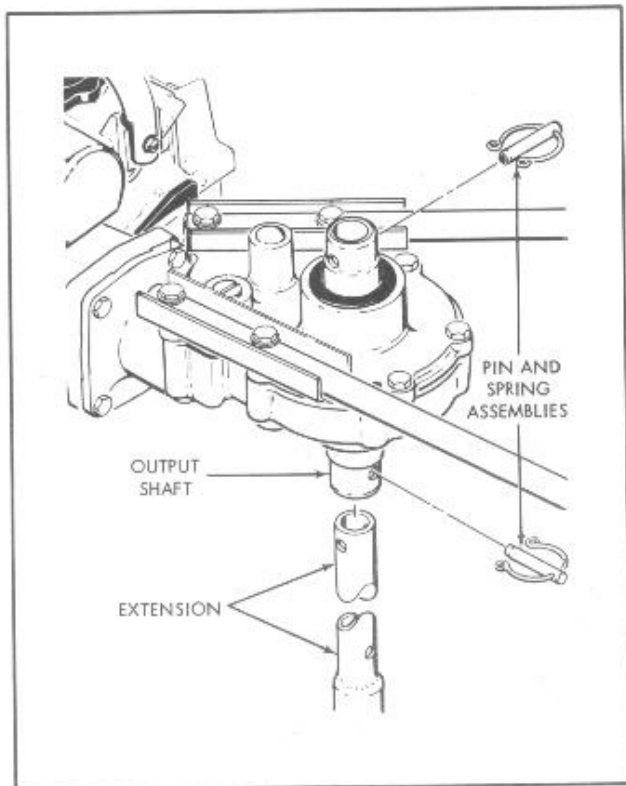

Figure 7. Install Auger Extension
7. Insert the auger extension up through the drive shaft in the gear housing. Line up the pin holes at the top and bottom of the drive shaft with the pin holes in the extension, and fasten the shaft and extension together with the pin and spring assemblies (figure 7).